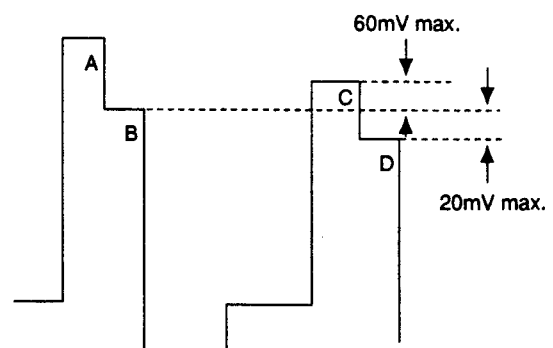

Fig. 5-32
- 2) Connect the probe of an oscilloscope to IC404 ⑩ PIN or TP401.
- 4) Adjust **R-Y LEVEL SECAM** so that the peaks of waveforms will be flush with each other as shown in Fig.5-32.